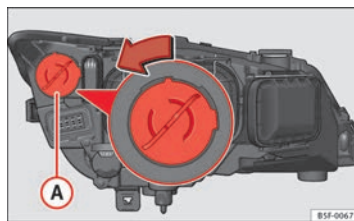

Fig. 135 Daylight bulb
- Turn bulb holder ⇒ Fig. 135 A to the left and pull.